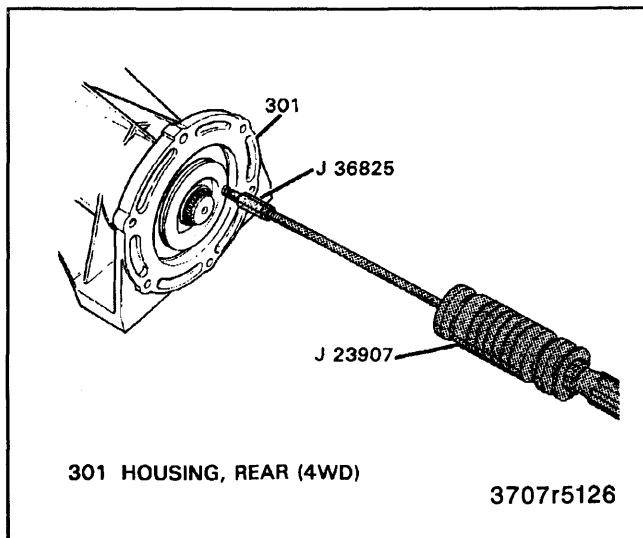

Figure 7—Extension Housing Seal Removal (4WD Models)
Remove or Disconnect (Figure 7)
3. Seal, using J 23907 and J 36825 (figure 7).